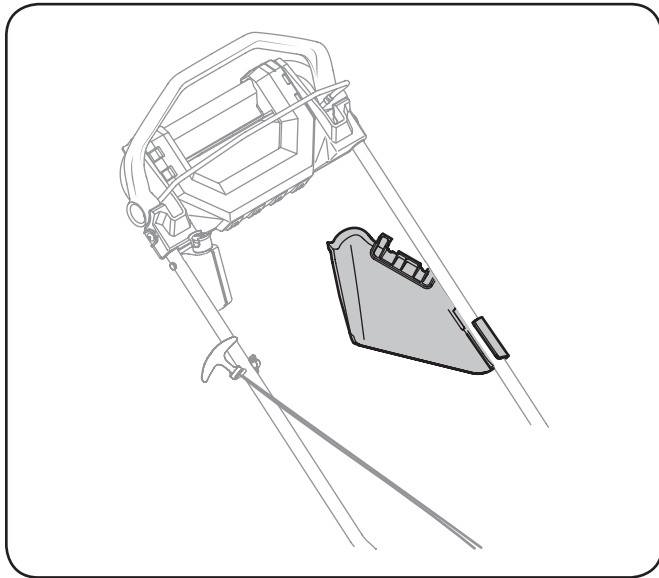

Figure 7-5
- Secure side discharge chute to handle as shown in Figure 7-5.